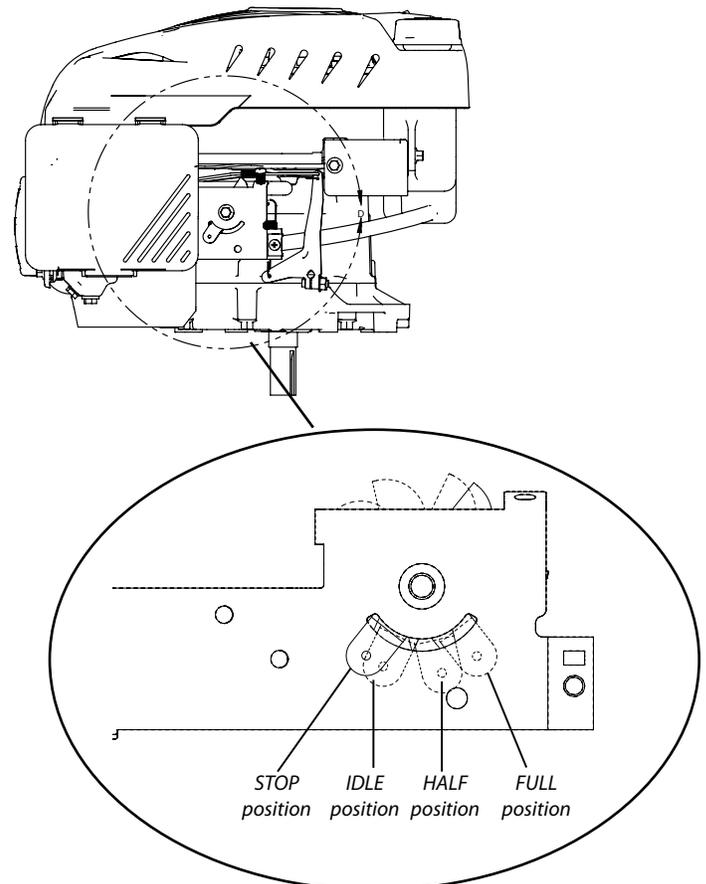

Figure 4: Throttle positions
5. Move throttle to “FULL” position. **SEE FIGURE 4.**
7. After engine begins operating, move throttle lever to “IDLE” position. **SEE FIGURE 4.** Run engine for 30 to 45 seconds at “IDLE” position until engine warms up.
8. After starting the engine, slowly move the throttle control lever from the “IDLE” position to desired speed as the engine warms up. **SEE FIGURE 4.**
2. Move throttle to “STOP” position. **SEE FIGURE 4.**